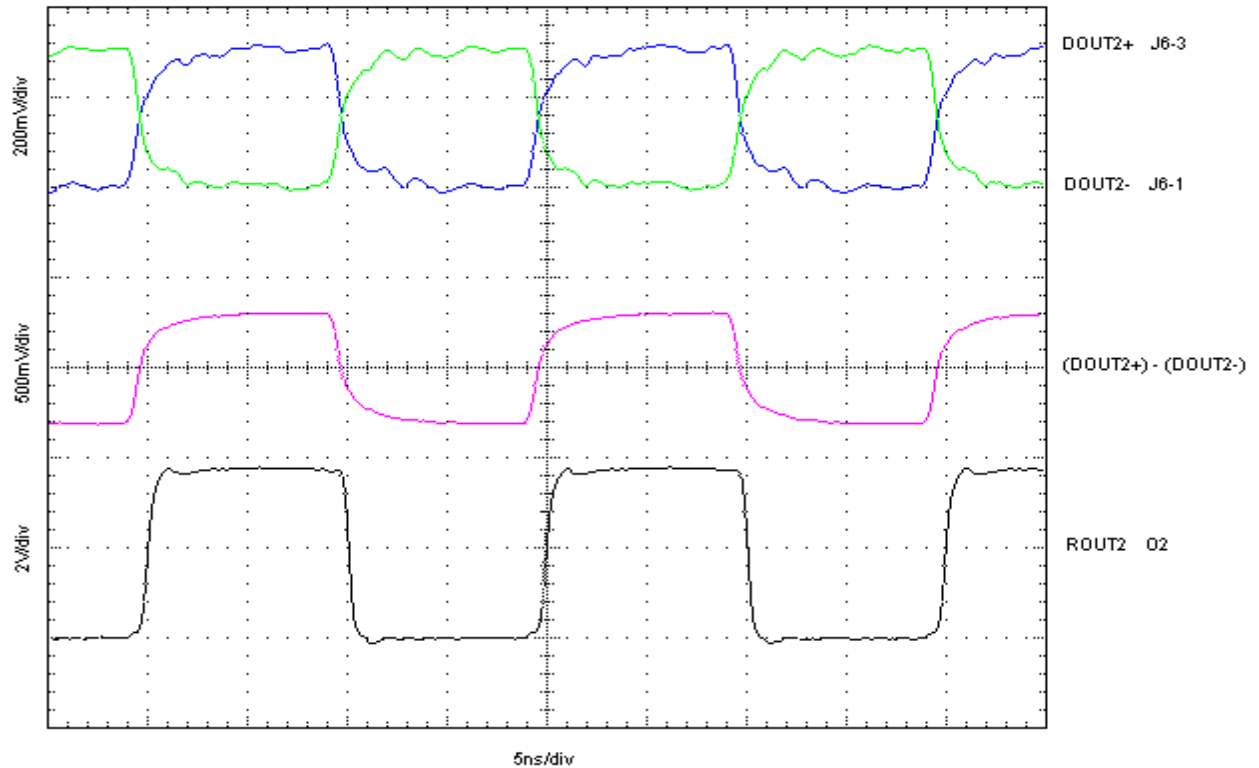

Figure 5: LVDS Channel #2 Waveforms — PCB Interconnect
The PCB interconnect signal (LVDS Channel #2) can be measured at the receiver inputs (test points J6-1 and J6-3). Due to the short interconnect path via the PCB little distortion to the waveform is caused by the interconnect. See *Figure 5*. Note that the data rate is 100 Mbps and the differential waveform ($V_{\text{DIFF}} = D_{\text{OUT2+}} - D_{\text{OUT2-}}$) shows fast transition times with little distortion.
In *Figure 5*, 6, 7 and 8, the top two waveforms are the single-ended outputs (between the driver and receiver), the middle waveform is the calculated differential output signal from the two single-ended signals and the bottom waveform is the output TTL signal from the receiver.
National's Interface Applications group employs a wide range of probes and oscilloscopes. One system that meets the requirements of LVDS particularly well is a TEK TDS 684B Digital Real Time scope (>1GHz bandwidth) and TEK P6247 differential probe heads. These probes offer 200k Ω , 1pF loading and a bandwidth of 1GHz. This test equipment was used to acquire the waveforms shown in Figures 5, 6, 7, 8 and 9.
- 6) View LVDS signals using the same voltage offset and volts/div settings on the scope with the TEK P6247 differential probes. View the output signal on a separate channel from test point O4. The signals that you will see should resemble *Figure 5*.